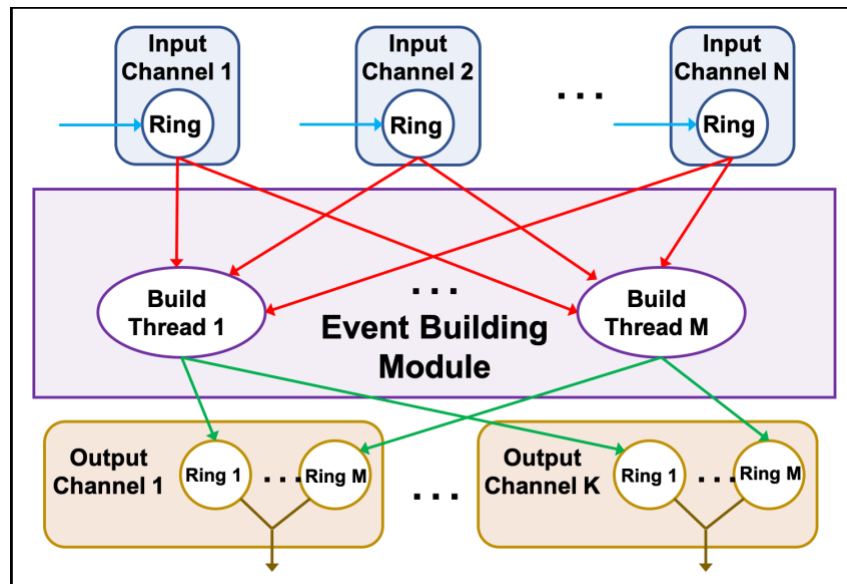

Figure 4.1 Event Builder Internals
The event building module implements all the functionality of an event builder. This module can function as a data concentrator (DC) which is the first level builder of a 2-stage event building. It can function as a stage event builder (SEB) which is the second level of a 2-stage event building. It also can function as a primary event builder (PEB) which is a single, stand-alone event builder that does a complete build. A rough outline of this module's internal structure is given in Figure 4.1 below.